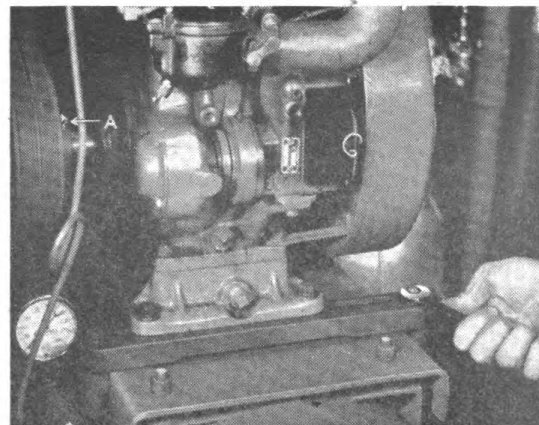

Figure 41
(1) Belt adjustment is made by loosening four engine slide rail clamp screws (See Figure 41). Engine may then be moved toward or away from compressor. Belts should be tight enough to eliminate slipping, but not too tight, putting an excessive load on the engine and compressor bearings.
(2) When belt tension is adjusted it is important that the engine and compressor pulleys be perfectly realigned. To do this it may be necessary to loosen engine pulley set screw ("A" Figure 41). A small open end wrench is provided with unit for this purpose.